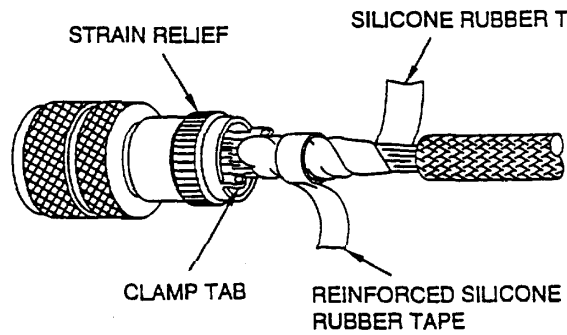

Figure 36. Accessory Tape Removal
- d. Cut and unwrap tapes (Figure 36).